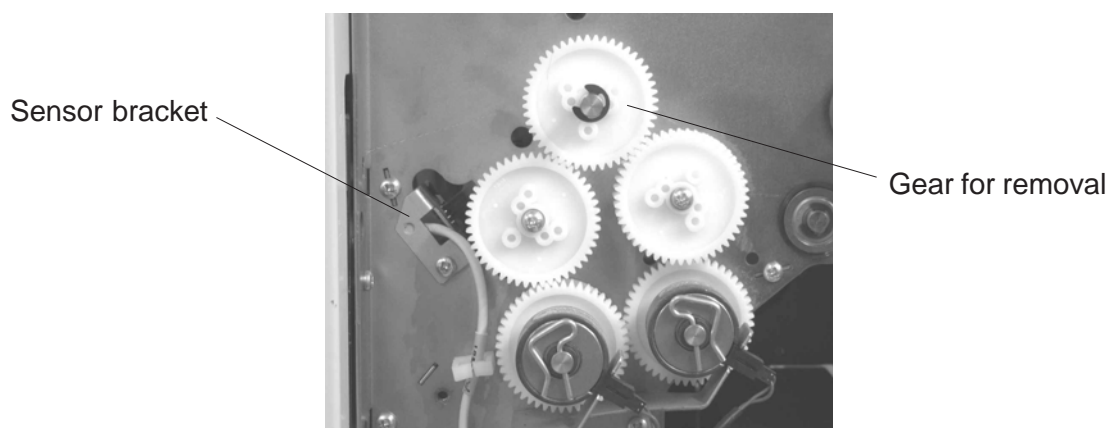

Fig. 3.3
2. On the LH (operator) side, take off the gear shown in Fig. 3.3 below by removing the 'E' clip. Note the drive pin behind the gear. Also remove the second 'E'clip next to the bearing.
3. On the LH side, remove the screw securing the sensor bracket (see Fig. 3.3) and move the bracket so that the sensor is clear of the cassette side plate (viewed from inside the machine).